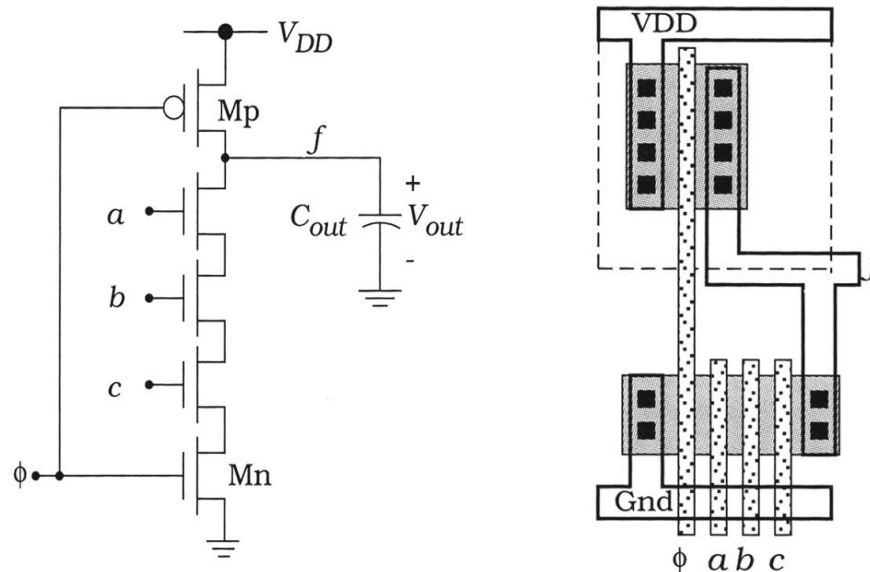

Figure 9.18 Dynamic logic gate example
- A dynamic NAND3 is shown in Figure 9.18